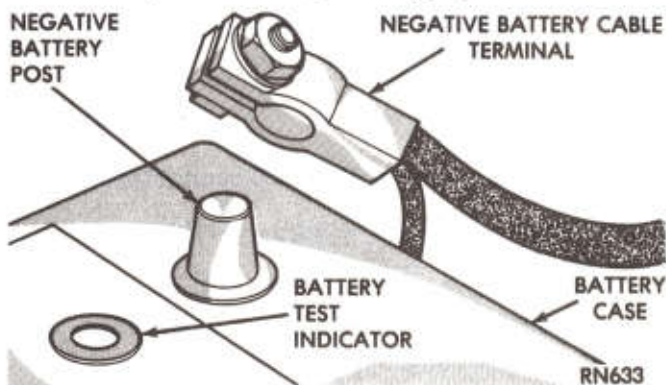

Fig. 1—Remove or Install Battery Cable
- (1) Disconnect negative battery cable (Fig. 1).
Nippondenso Starter Motor (Fig. 1)**Fig. 1—Nippondenso Starter Motor Assembly****To Overhaul**